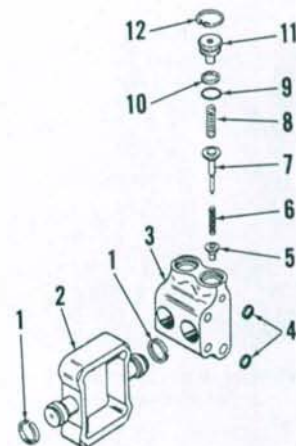

Fig. 232—Exploded view of valve chamber and associated parts showing poppet type inlet and outlet valves.
To disassemble valve chambers, first remove snap ring (12—Fig. 232). Thread a ¼ inch UNC bolt into tapped hole at top of plug (11), then pull plug from chamber. Remove poppet valves and springs from chamber bore.